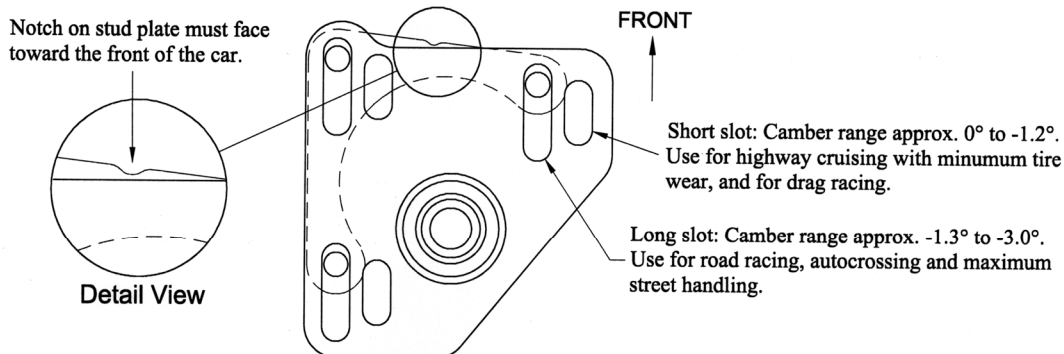

Figure 2
- Step 6:** Refer to Figure 1 and Figure 2 for the following steps: